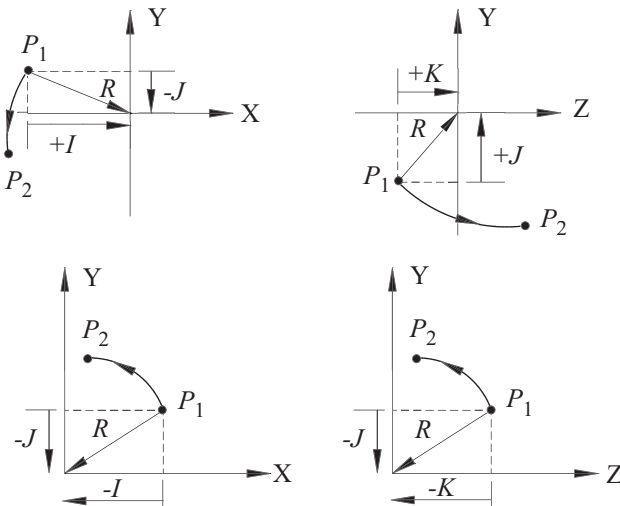

Figure 16
*Note: in the Figure 16 the signs (+, -) of the incremental distances  $I$ ,  $J$ , and  $K$  depend on the position of the starting point of the arc with respect to the center of the arc, that is, with respect to the coordinate system. If the direction of the vector is consistent with the direction of the assigned axis of the coordinate system, then we apply the positive sign. If not, then we apply the negative sign.*